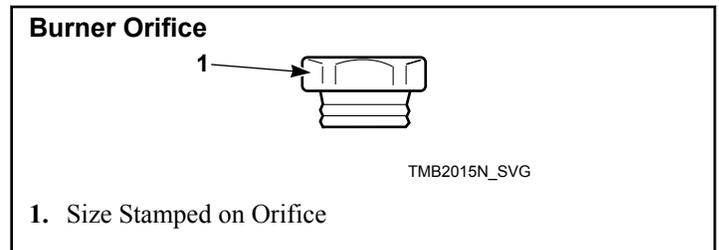

Figure 21
3. Install the new, correct burner orifice(s). Refer to *Figure 21* and *Table 15*. Torque each to 9 – 10 Nm.
4. Reinstall orifice holder assembly to gas valve, making certain burner orifice(s) are in line with burner tube opening. Refer to *Figure 21*.